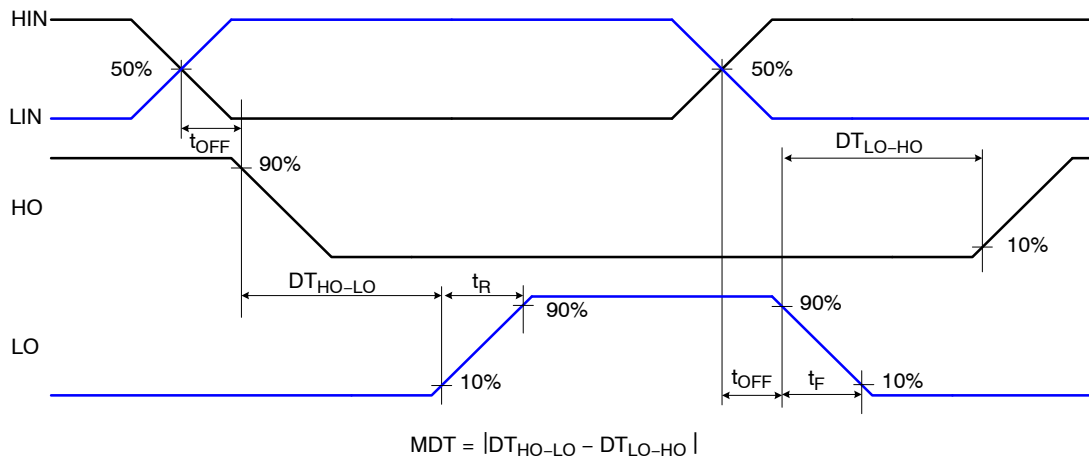

Figure 40. Internal Dead Time Definition
9. MDT is defined as  $|DT_{HO-LO} - DT_{LO-HO}|$  referenced to Figure 40.